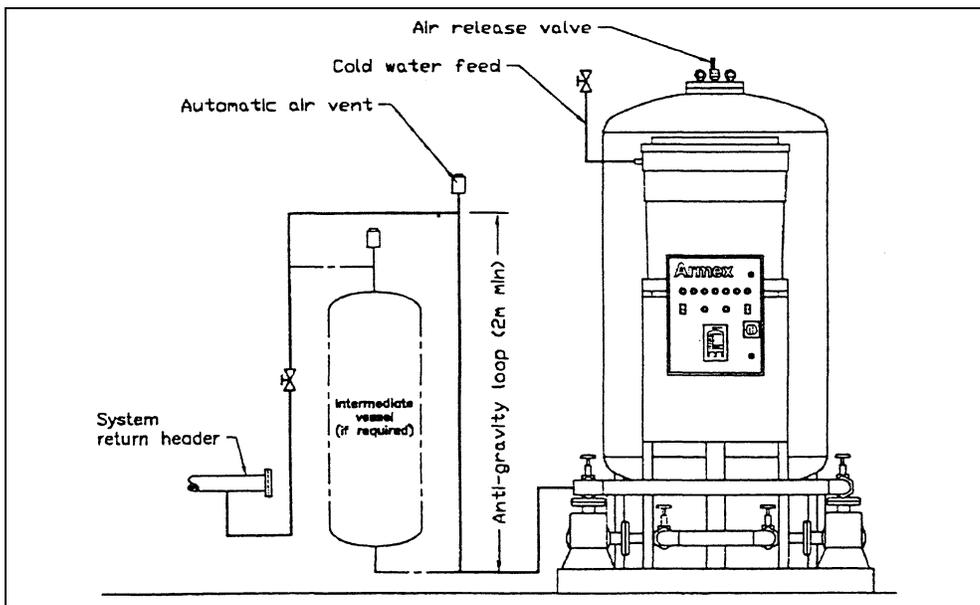
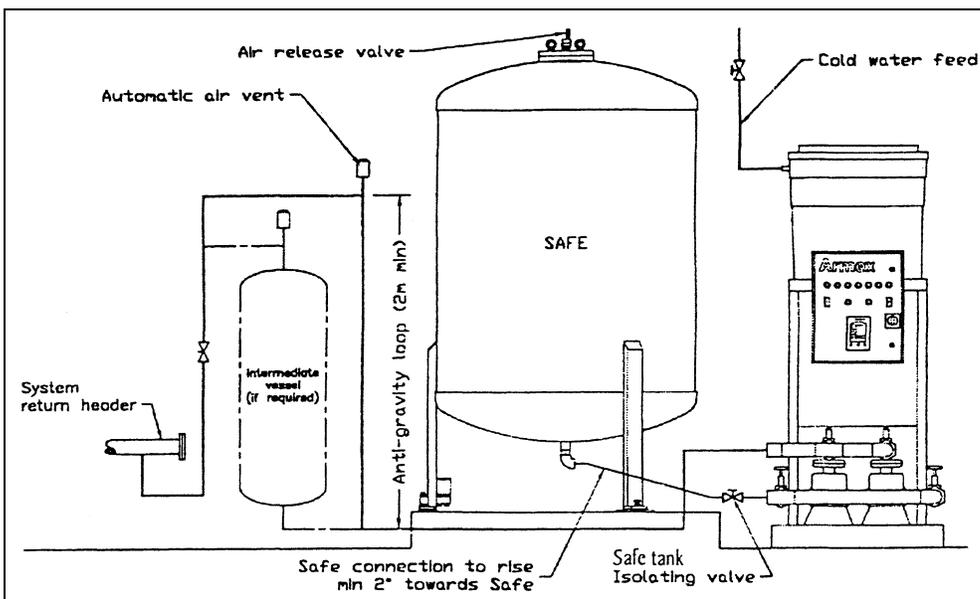

Fig. 1
Fig. 2
1. Install the equipment as indicated on Fig. 1 (integral transfer/*SAFE* units) or Fig. 2 (Separate/Multiple *SAFE* units). Depending on the system application, there will be 3 separate installation types:
3. Fit isolating valves where indicated on Figures 1 & 2. It is recommended to use ball isolation valves with removable handles to ensure valves are not inadvertently closed during normal system operation.
7. Fit air release valves (supplied loose) to top of SAFE tank (see Figures 1 & 2).